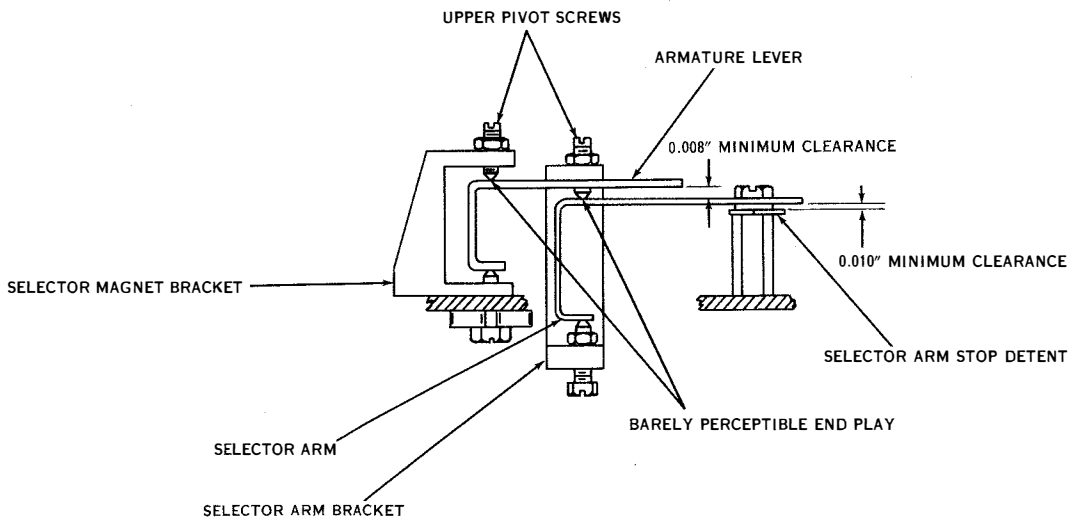
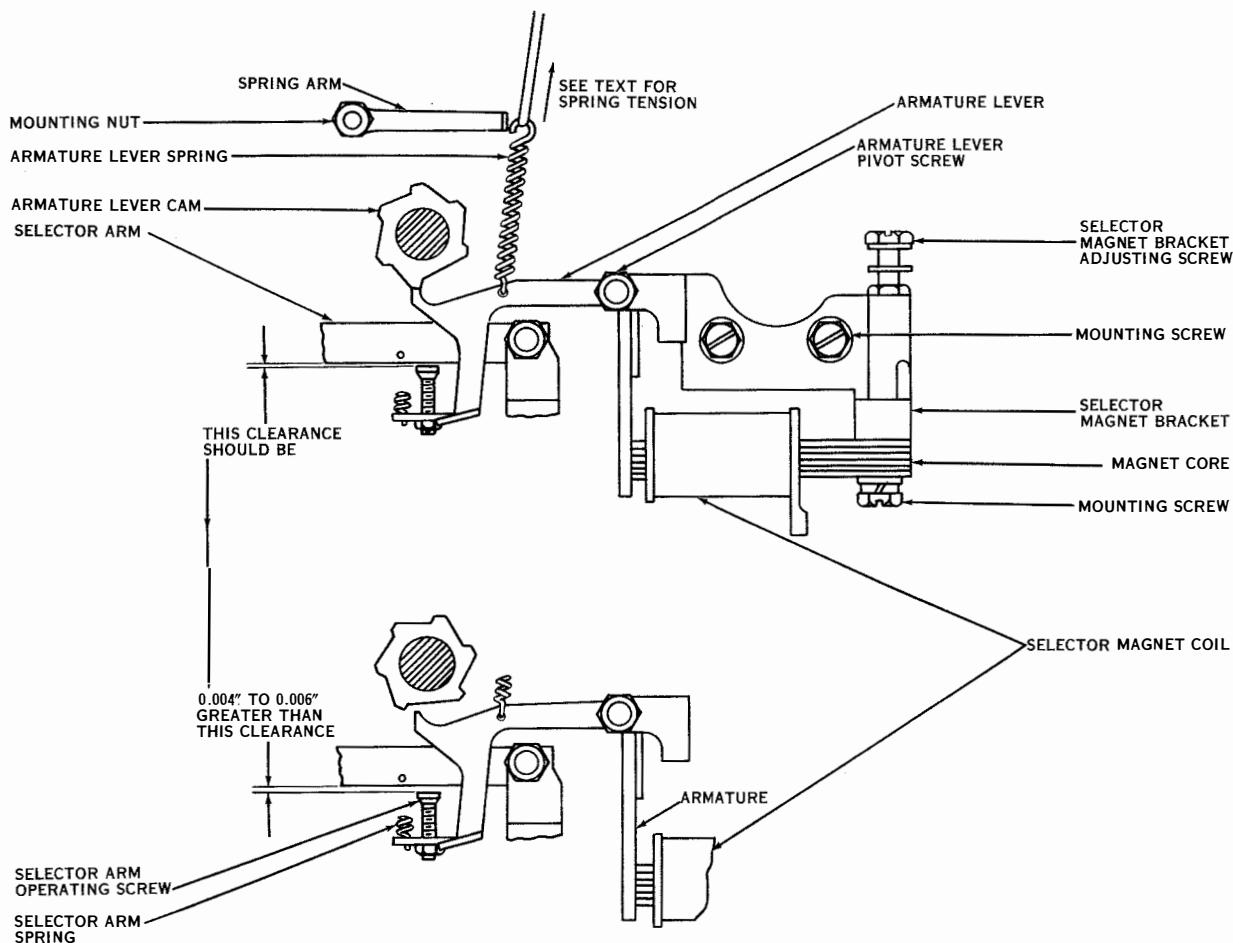

Figure 7-26. Selector Arm and Armature Lever
Figure 7-27. Selector Magnet Bracket and Armature Lever Spring
(7) **ARMATURE LEVER PIVOT SCREW.** (See figure 7-26.)—The armature lever should be free on its pivots with a barely perceptible end play. To check, unhook the armature lever spring and the selector arm spring (see figure 7-27) and move the lever up and down on its pivots. To adjust, loosen the upper pivot lock nut and position the upper pivot screw. Hold the screw in position and tighten the lock nut.
(8) **SELECTOR MAGNET.** (See figure 7-27.)—When the armature is in its operated position, it should contact both magnet pole faces simultaneously and the magnet cores should be located equidistant from the outer edges of the lever (gauged by eye). To adjust, remove the selector magnet bracket from the unit and reposition the magnet core assembly. Loosen the mounting screws and hold the assembly so the cores are vertical. With the armature resting on the pole faces by its own weight, position the magnet core assembly and tighten the mounting screws.
(9) **SELECTOR ARM PIVOT SCREWS.** (See figure 7-26.)—The selector arm should be free on its pivots with a barely perceptible end play.
(a) To check, unhook the armature lever spring, the selector arm spring, and the selector arm stop detent spring (see figure 7-27) and move the arm back and forth on its pivots. To adjust, position the upper pivot screw and tighten the lock nut while holding the screw in position.
(b) There should be a minimum clearance of 0.008 inch between the selector arm and the armature lever and a minimum clearance of 0.010 inch between the selector arm and the selector arm stop detent, when the play in the detent is taken up in the direction to make this clearance a minimum. (See figure 7-26.)
(c) To adjust the minimum clearance, remove the selector magnet bracket and the selector arm bracket and position both pivot screws of the selector arm. (See figure 7-26.)
(17) SELECTOR MAGNET BRACKET. (See figure 7-27).—When the selector magnet is energized, the clearance between the selector arm operating screw and selector arm should be 0.004 to 0.006 inch greater with the armature lever on the peak of its cam than when it is opposite an indent of its cam.
(18) **ARMATURE LEVER SPRING.** (See figure 7-27.)—A tension of 13 to 15 ounces (22 to 26 ounces